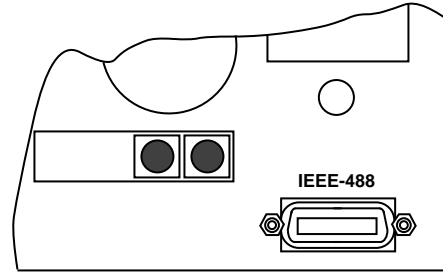

Figure 4-3
1. Line up the cable connector with the connector located on the rear panel. The connector is designed so that it will fit only one way. Figure 4-3 shows the location of the IEEE-488 connector on the instrument.